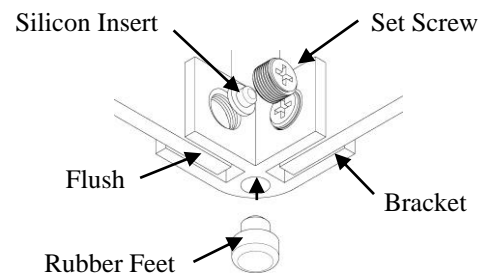
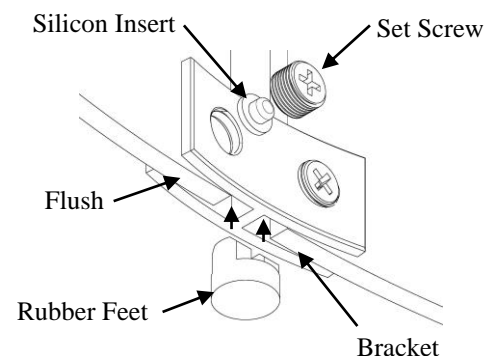

Fig. 1
Fig. 2
3. Stand the glass panel vertically and slide the bracket onto the glass. The glass should be flush with the bottom of the brackets. Fig.1 and Fig.2
4. Using a #2 Phillips screw driver, loosely connect the brackets to the glass panels. Repeat until the wind guard is fully assembled. Fig.1 and Fig.2